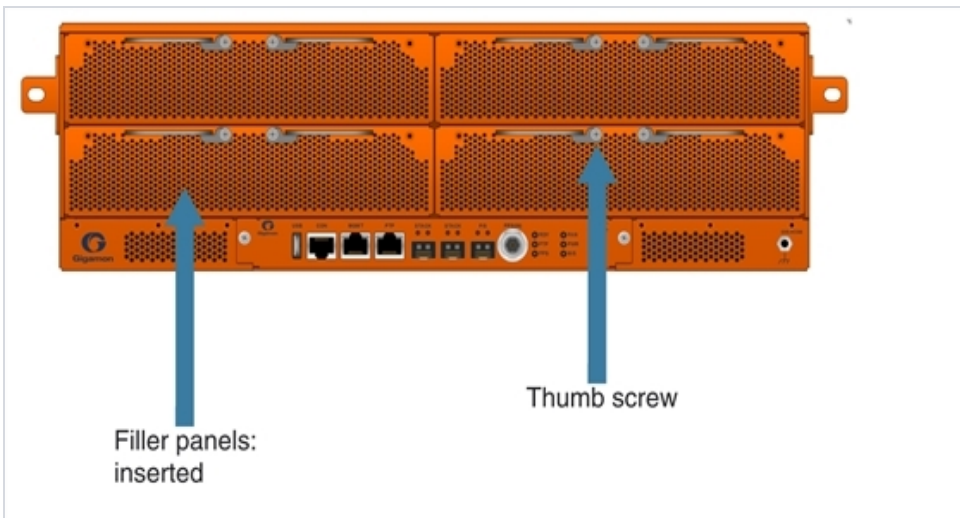

Figure 8: Filler Panels Inserted
3. Locate the protective filler panels in the bays. Refer to Figure 8: Filler Panels Inserted on page 65.